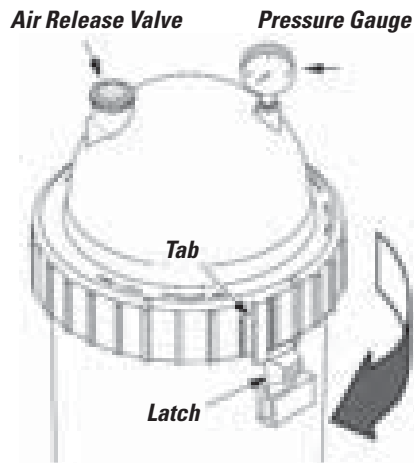

Fig. 2 – Rotate Posi-Ring™ until tab locks behind the safety latch.
1. Securely lock the Posi-Ring™ in place by rotating it CLOCKWISE until it »clicks« past the safety latch (see Figure 2). Stop turning as soon as the ring clicks past the latch. The ring may feel slightly loose, but it will tighten up when pump is on and filter is under pressure.
2. Install the pressure gauge and the air release valve (see Fig. 2) on the tank lid.
- C. Rotate the Posi-Ring™ clockwise until it locks behind the safety latch (see Figure 2).